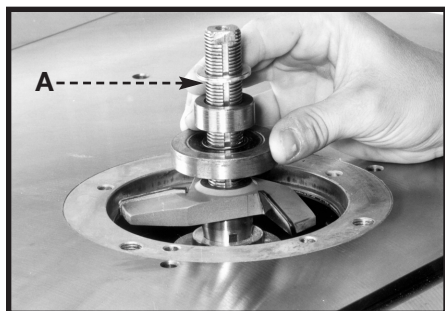

Fig. 18
1. Two 3/4" I.D. washers are supplied with the 4-1/2" spindle guard. Place one of the washers (A) on the spindle (Fig.18).